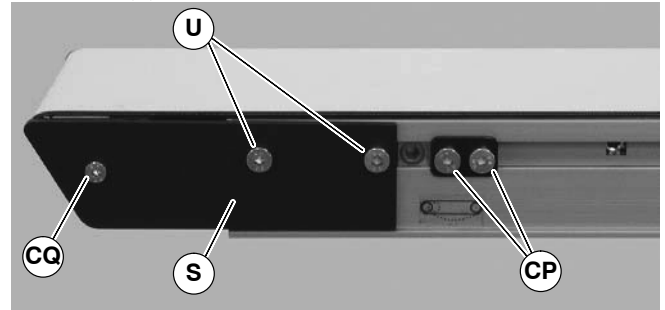

Figure 59
2. On one side of conveyor, use a 3 mm and 4 mm hex-key wrench to remove head plate fastening screws (CQ & U of Figure 59) and remove head plate (S).
4. After replacing bearings, re-install head plate (S of Figure 59). Use a 3 mm hex-key wrench to tighten one (1) fastening screw (CQ) to 30 in-lb (3.4 Nm). Leave two (2) fastening screws (U) loose for belt tensioning.